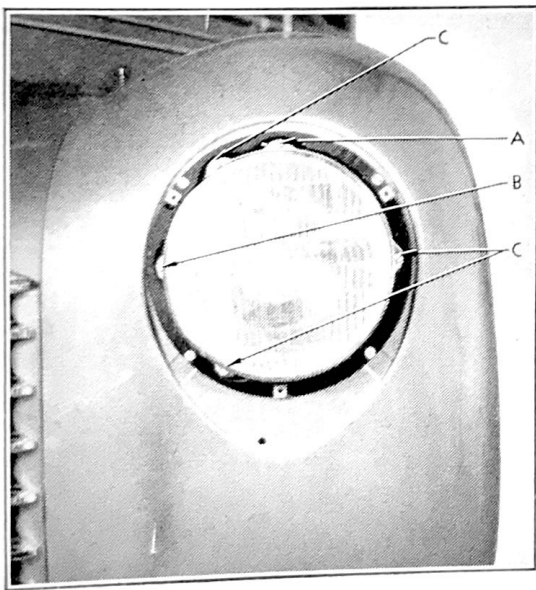

Figure 52
2. Loosen, but do not remove, the three screws (C), Fig. 52, holding the retaining ring. (Do not disturb the aiming screws (A and B) at the top and left side of the unit.)
Independent adjustment of both horizontal and vertical aim is provided in "Sealed Beam" headlamps, with the adjustment screws accessible from the front of the lamp after first removing lens rim. The vertical adjustment screw is shown at (A) and the horizontal adjusting screw at (B), Fig. 52. The light beam is moved to the right or left by tightening or loosening this horizontal adjusting screw (B). The beam may be raised or lowered by turning the vertical adjusting screw (A).